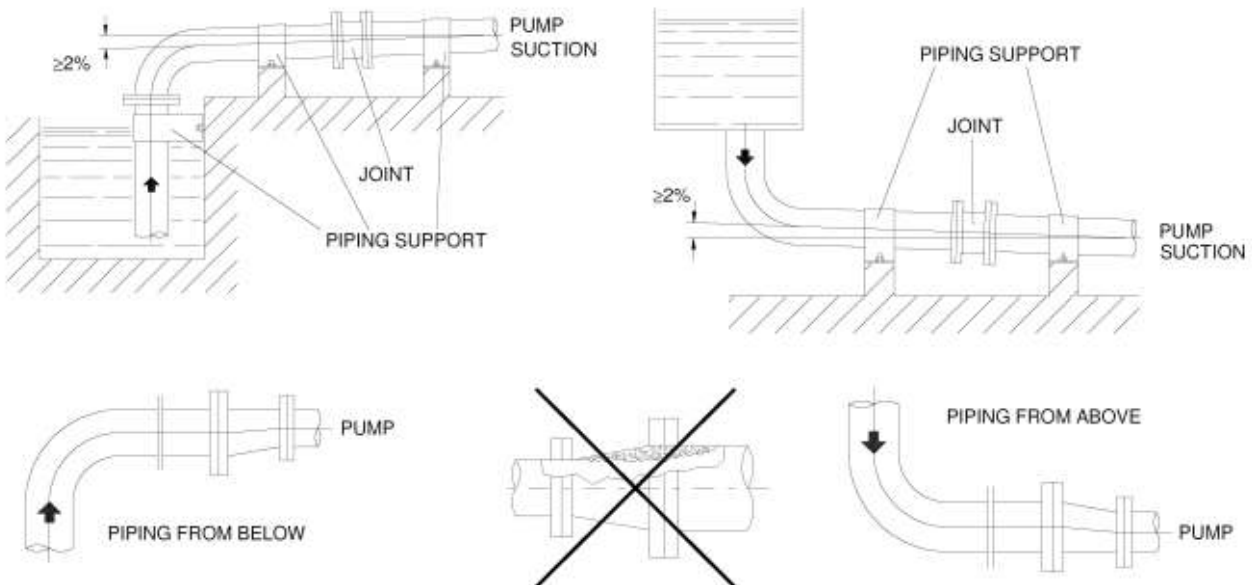

Fig. 16
3.2 - SUCTION AND DISCHARGE PIPING (see fig. 16)